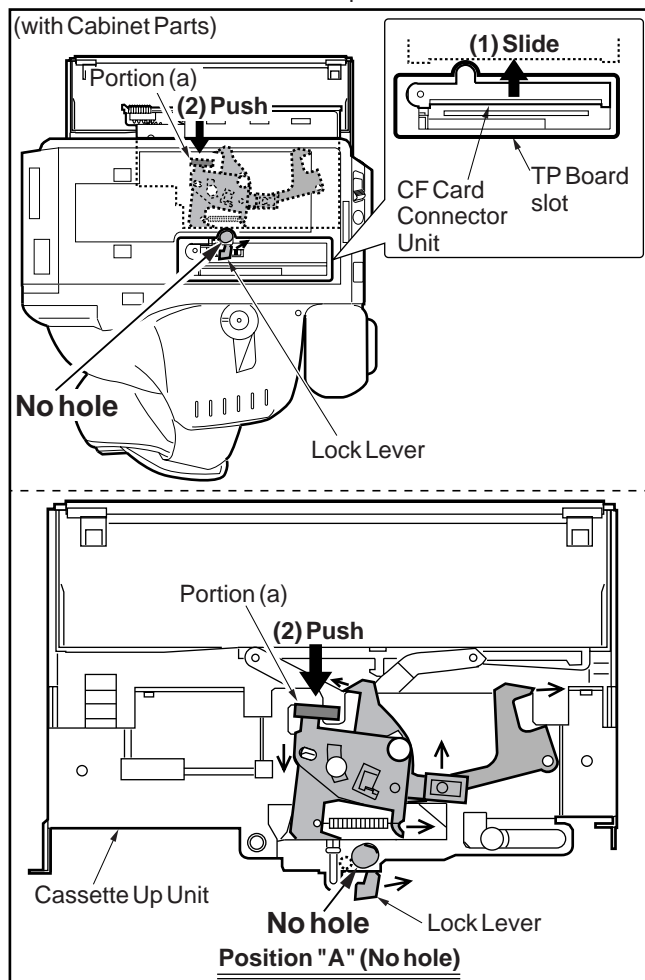
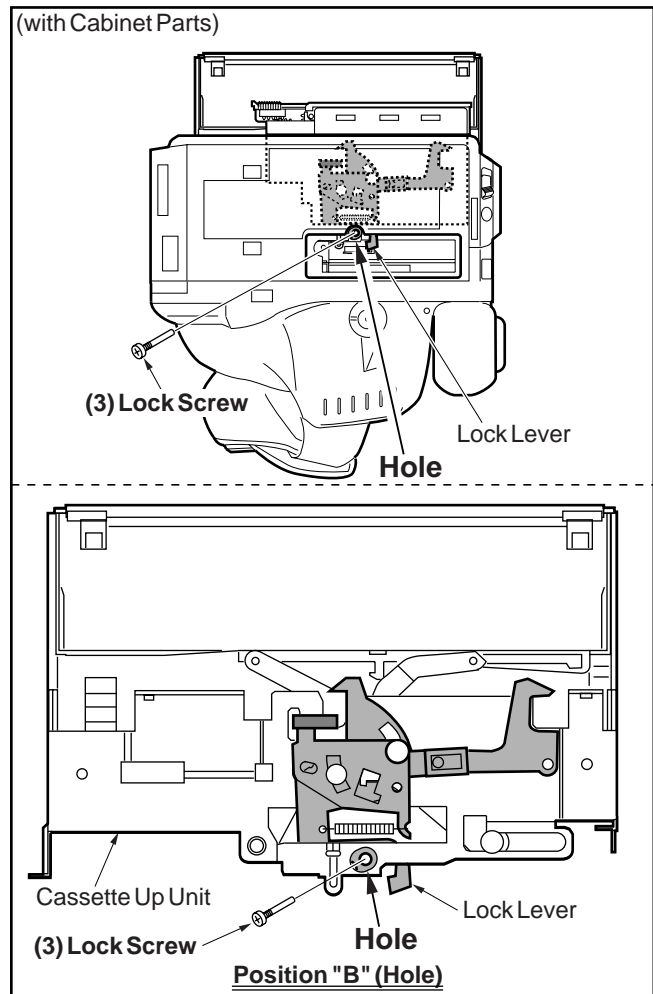

Fig. 2-1
Fig. 2-2
- (1) (With Cabinet Parts) Before installing the Lock Screw, slide the CF Card Connector Unit as shown in Fig 2-1.
- (2) If the Lock Lever, shown in gray, is set to Position "A" (No hole), change Position "A" (No hole) to Position "B" (Hole) as shown in Fig. 2-2 by pushing Portion (a) as shown in Fig. 2-1.
- (1) Confirm that the Lock Lever, shown in gray, is set to Position "A" as shown in Fig. 2-1, and that the mechanism is in the STOP position.
- (2) Insert the cassette tape.
- (3) Push Portion (a) as shown in Fig. 2-1 while keeping the Cassette Up Unit in the down position so the mechanism starts loading. (Cassette Down Switch is ON.)